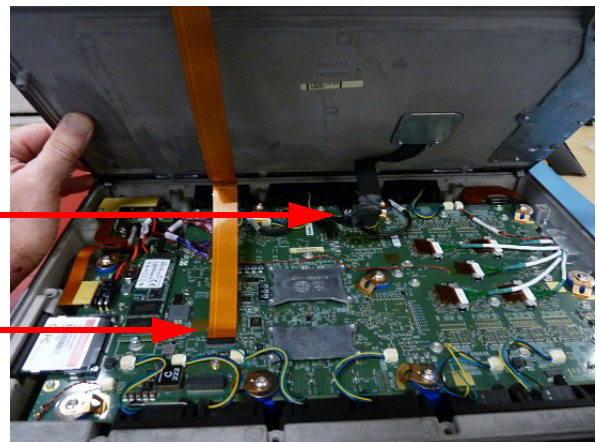

Figure 6.6 User Interface Removal
5 Lift the User Interface from the system as shown in Figure 6.6 on page 50
- 1 Place the User Interface on the upper Enclosure as shown in Figure 6.6 on page 50.